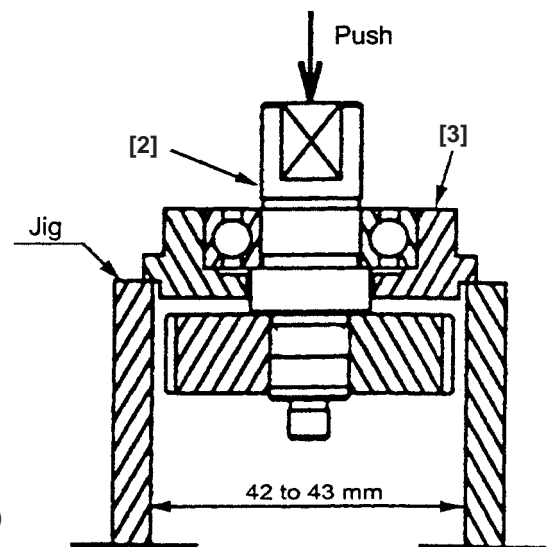

Fig. 4
(3) Removing the Spindle and Gear Set **[2]** (See Fig. 4.)